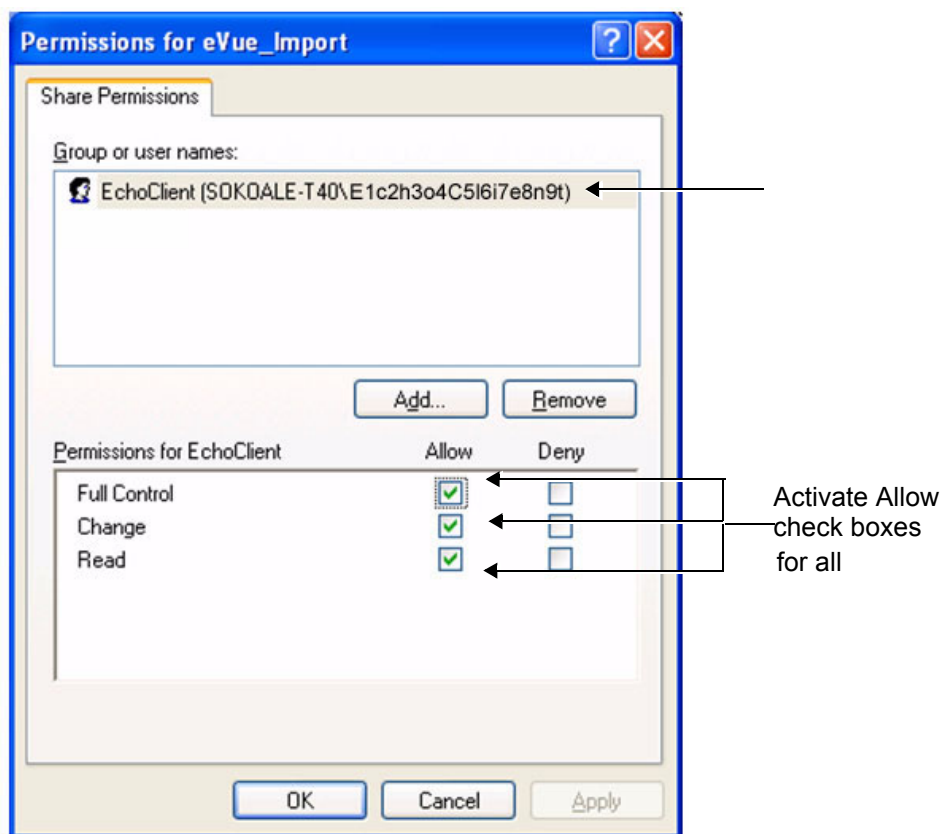

Figure 3-159 Setting Permissions for E1c2h3o4C5l6i7e8n9t
l.) From the Permission for eVue_Import dialog box, highlight and select **E1c2h3o4C5I6i7e8n9t** from the list (see Figure 3-159).